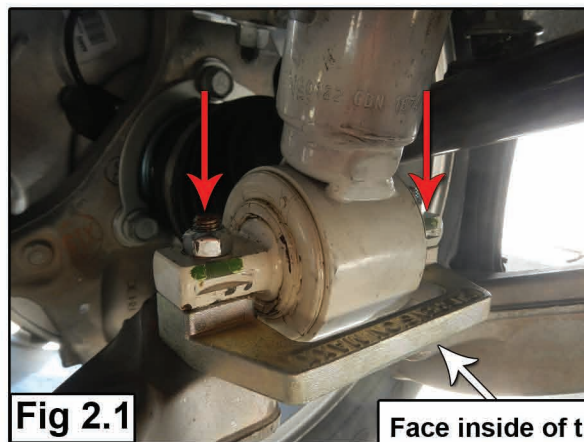

Fig 2.1
Align mounting holes and reinstall vertical bolts. Torque to 35 ft. lbs. (Fig 2.1)
with the kit. Torque to 35 ft. lbs. (Fig 2.1)
- 19. Insert MAXXstak strut leveling lift spacer between lower a-arm and strut. Align mounting holes and install the supplied bolt, washers, and nuts. Torque to 35 ft. lbs. See (Fig 2.1).